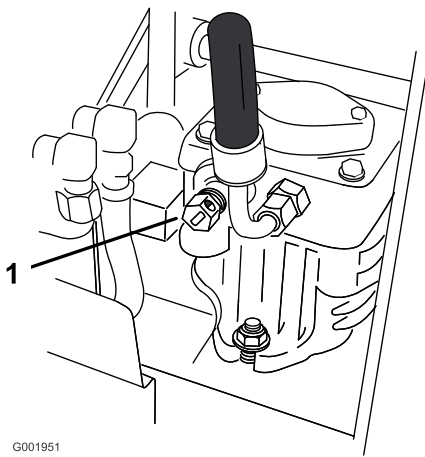

Figure 10
2. Open the by-pass valve on both pumps by turning them counter clockwise 1 to 2 turns. This allows hydraulic fluid to by-pass the pumps and the wheels to turn (Figure 10).